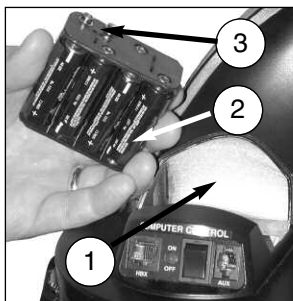

Fig. 12: Insert eight AA-size batteries inside the battery compartment:
12. **Insert batteries:** The telescope's battery compartment (**1, Fig. 12**) is located on top of the drive base. Open the battery compartment by lifting the cover and pulling it away from the drive base.